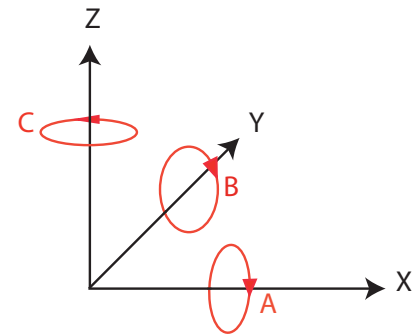

Fig 3: Mill axes reference letters.
For CNC it doesn't matter. What is important is the position of the Controlled Point (CP), a specific point which defines the position of the tool in relation to the workpiece. The Controlled Point is usually a point at the end of the tool, aligned with the vertical axis of the spindle (photo 5). Moving the table and/or the head moves the CP relative to the workpiece. Conventionally, the movement of the CP is described using axes labelled X, Y, Z, A, B and C. The X, Y and Z axes refer to movement right and left, forward and back, up and down, as shown in photo 6. The other 3 axes, A, B and C, can be flexibly defined, depending on your machine, and each can be either a rotary or a linear axis. Where these are rotary axes, they are defined as shown in fig 3 (rotary axes). For our purposes, the A axis will normally represent rotary movement, typically of a rotary table mounted either horizontally or vertically, as shown in photos 7 and 8 (next page). From a purely economic point of view, we